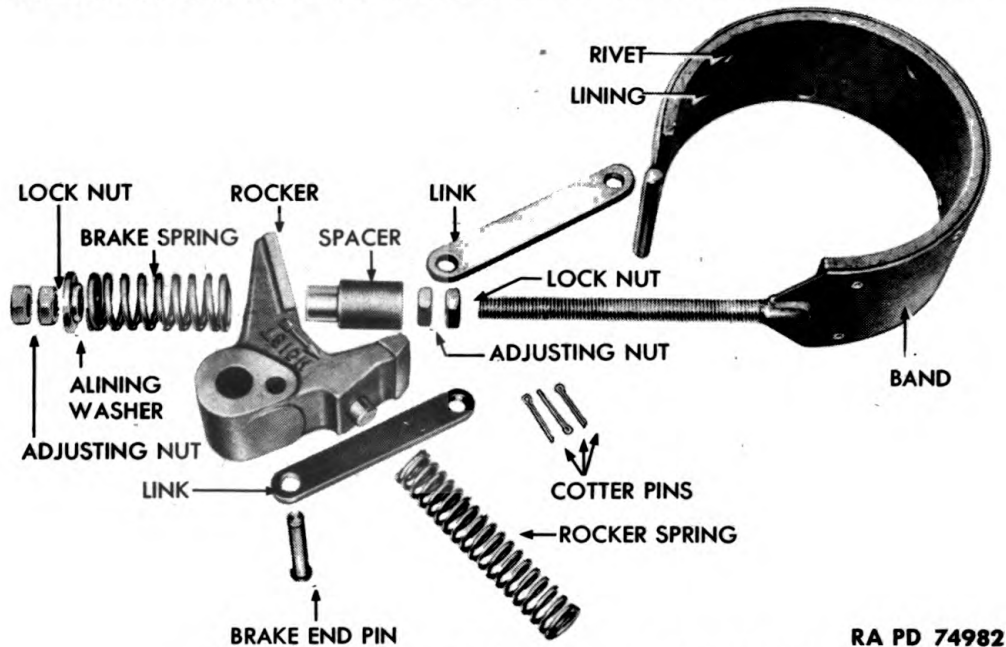

Figure 25 — Automatic Brake — Disassembled
a. **Disassembly** (fig. 25). Remove upper adjusting nut, lock nut, alining washer, and brake spring. Remove two cotter pins from welded pin and hand end pin, and remove two band end links. Remove brake rocker from brake band assembly, and clip spacer off band end. Remove lower adjusting nut and lock nut from band end.
c. **Assembly** (fig. 25). Install lock nut and lower adjusting nut on band end, then install spacer and brake rocker on band end. Install two band end links, and fasten with band end pin and welded pin. Install cotter pins in band end and welded pins. Install brake spring, alining washer, lock nut, and upper adjusting nut.